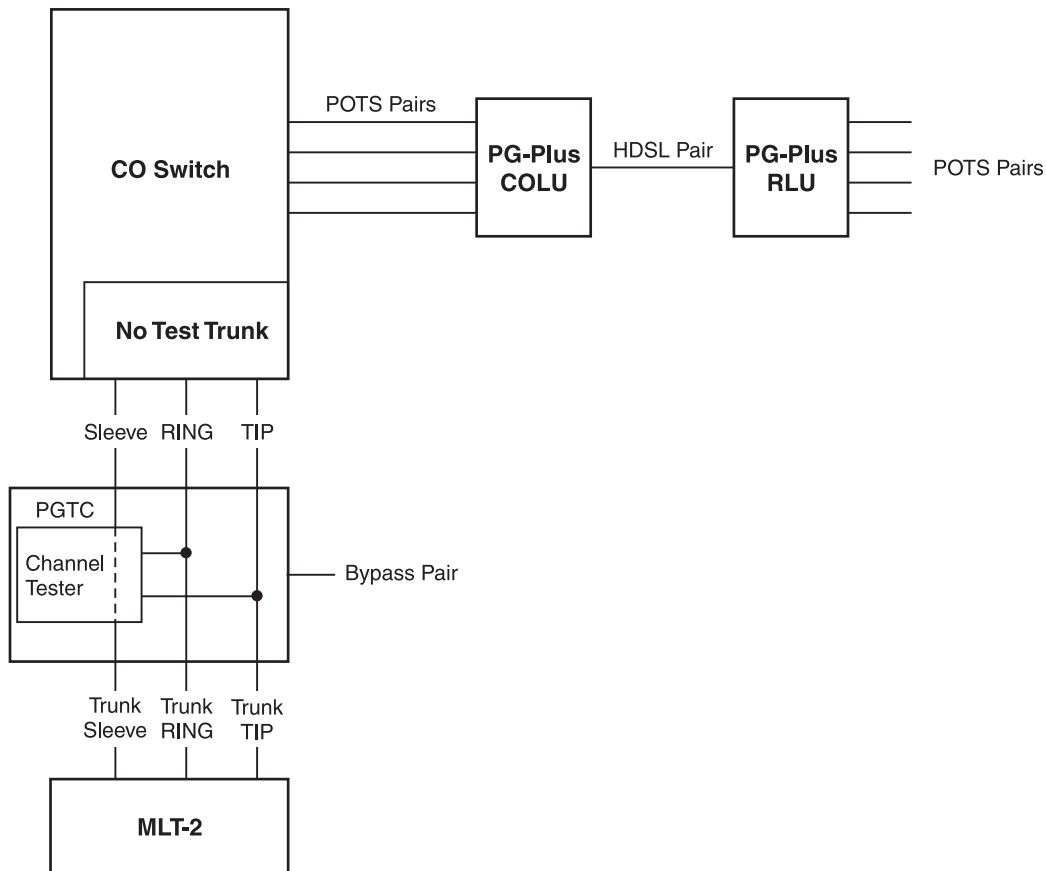

Figure 2. Non-Integrated MLT-2
The PCU-796 is not required in Central Offices (CO) that use Nonintegrated MLT-2 systems. Figure 2 shows the typical connections of Nonintegrated MLT-2. In this case, the Sleeve lead passes through the PGTC to the No Test Trunk in the switch. MLT interprets -48 V on the Ring lead as **Test OK**. Because the PGTC remains inactive during PG-Plus testing, the -48 V is returned by the No Test Trunk when the MLT opens the Sleeve lead at the end of testing.